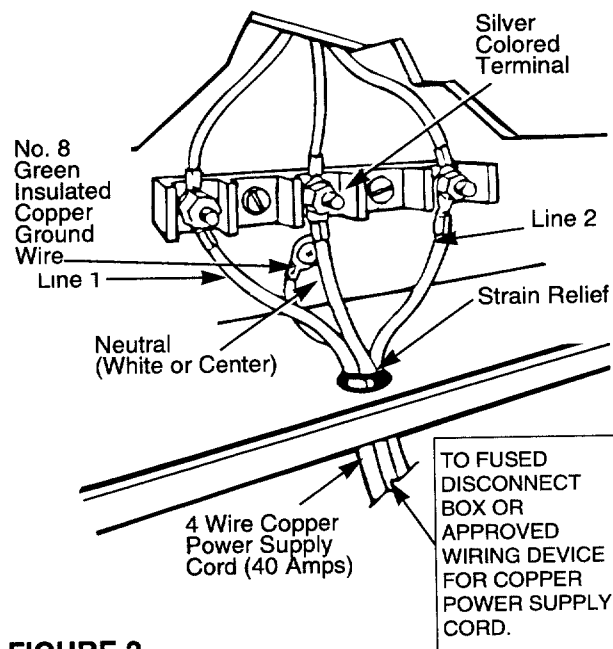

FIGURE 2
C. Connect the ground wire (green) of the copper power supply cord to the frame of the appliance with the ground screw, using the hole in the frame where the ground strap was removed. See Figure 2.